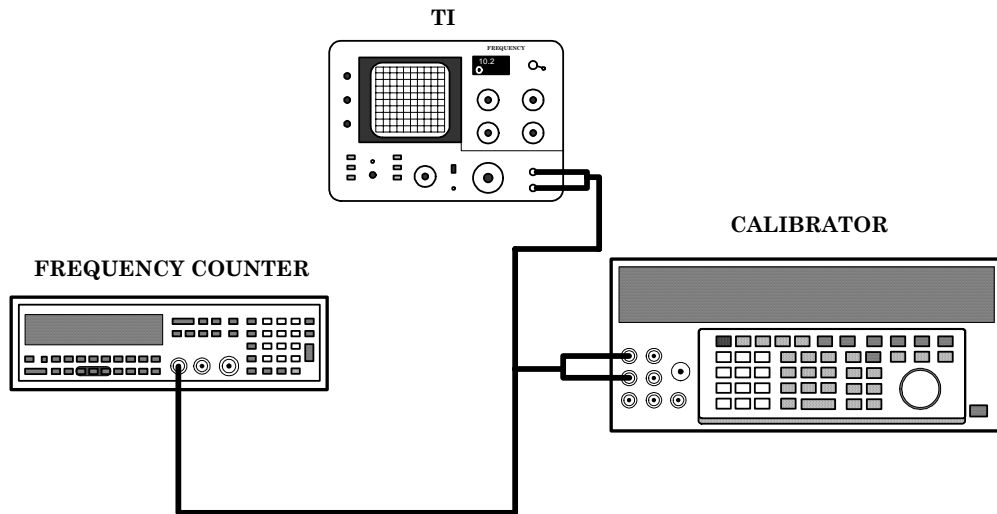

Figure 1. Frequency calibration - equipment setup.
- (1) Connect equipment as shown in figure 1.
- (2) Position controls as listed in (a) through (h) below.